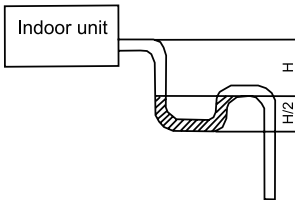

Fig. 4.21
- (4). When the drain hose cannot keep a sufficient gradient for gravity flow, it is necessary to use a riser pipe (field supplied) to create a gradient.
- (5). If the air flow of indoor unit is high, this might cause negative pressure and result in return suction of outdoor air. Therefore, U-type water trap shall be designed on the drainage side of each indoor unit.(Fig. 4.21)
- (6). Install one water trap for each unit.